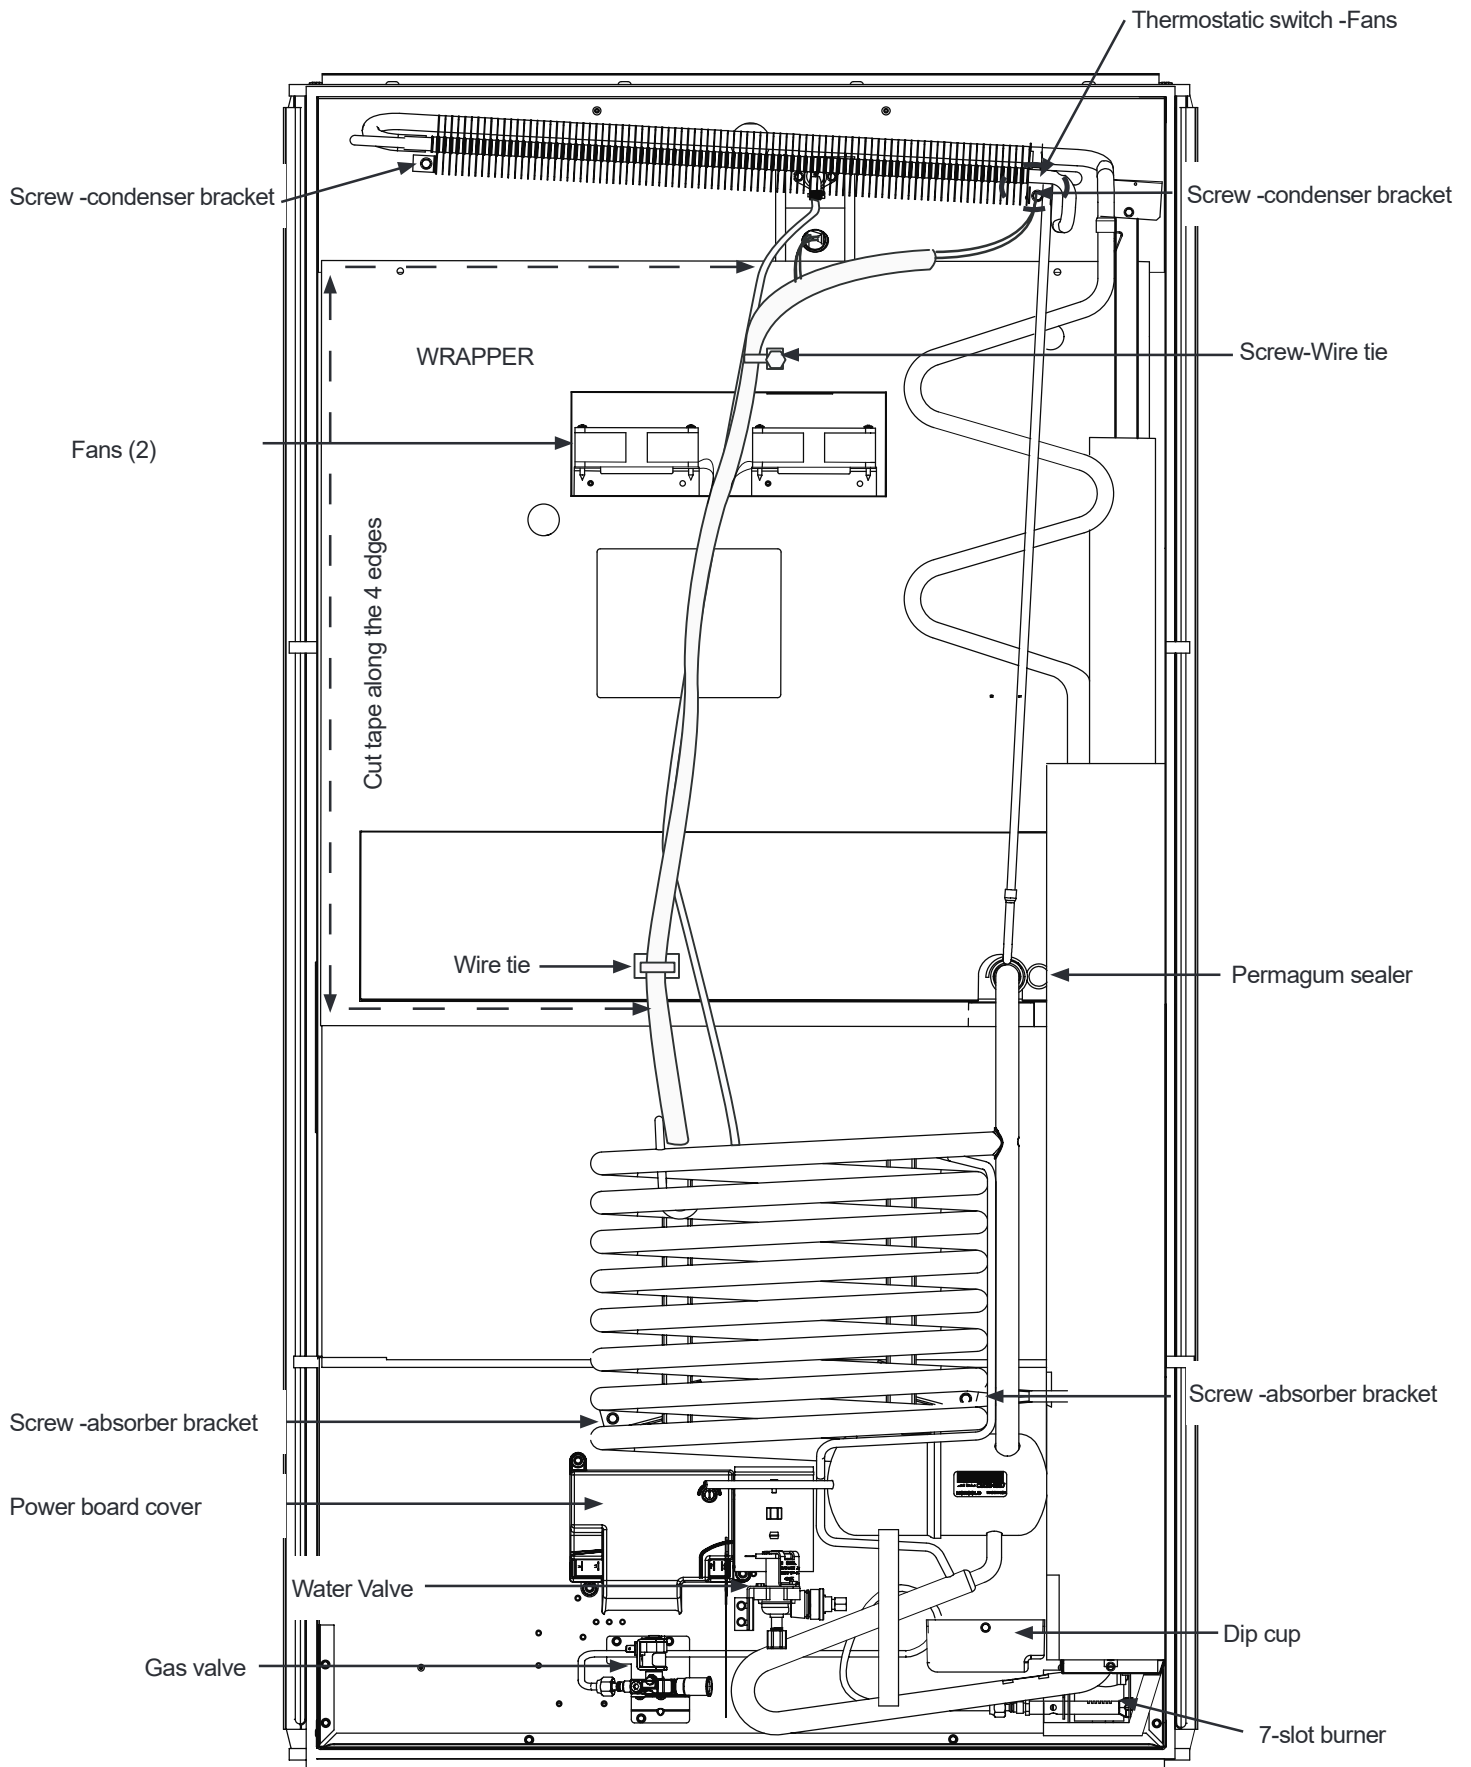

Figure 8-5. —Cooling unit component location -Lower Section.
**For steps 11 through 15 refer to Figure 8-5 on page 70.**
14. Remove condenser bracket screws (2).
15. Remove absorber bracket screws (2).